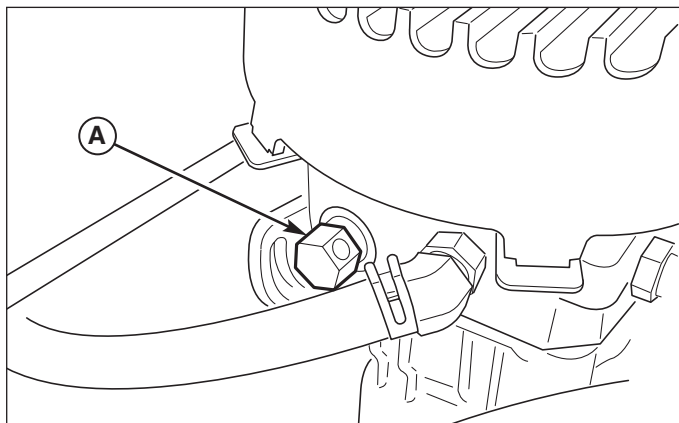

Figure 2. Hydraulic System By-Pass
3. To disengage the pumps (free-wheel position), turn the hydraulic release valves (A, Figure 2) located on the pumps COUNTER-CLOCKWISE a maximum of 2 full turns.